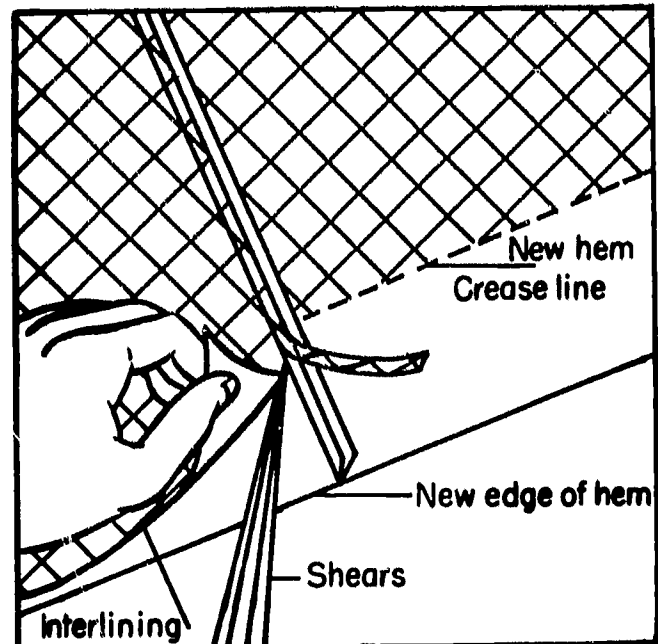

Figure 20.
12. If the coat has an interlining, cut away the excess interlining which extends beyond the new crease line of the coat where it is sewn into the side seams. Trim up to the seams and cut away without bothering the seams (see Figure 20).